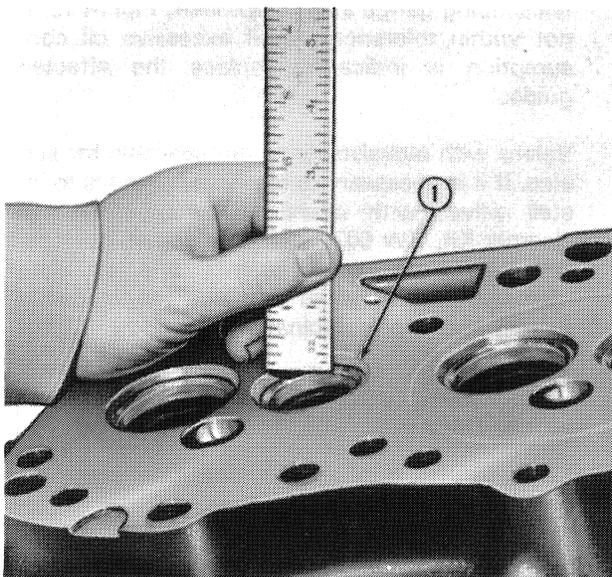

Figure 9
6. Measure the width of the valve seats, Figure 9, and reface the seats if they do not meet the specifications shown in Figures 11 and 12.